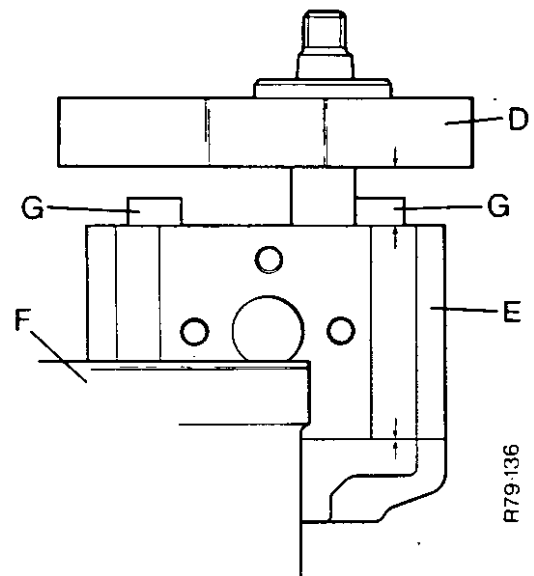

FIGURE 6. REMOVAL OF THE PUMP FLANGE
8. Hold the pump body in the vice as shown in Figure 6. Carefully pull the pump flange away from the body. As soon as the pump flange is clear of the dowels, hold it at an angle. Do this so that the keyway will not cut the seal in the flange when you pull it clear of the rotor shaft. Pull the flange clear of the rotor shaft. If the flange will not separate easily from the body, lightly hit it with a soft faced hammer or a piece of soft wood. This will free the flange from the dowels.